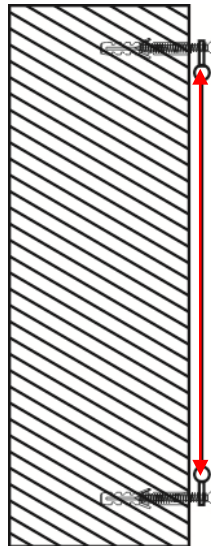

Fig. 7
2. Next, measure distance of the top hook and bottom hook (**Fig. 7**) to determine the height required for the bottom nail or screw installation. Once the bottom nails/screw supports are in place hang the bottom hooks to secure the DIY Wall 3 screen.